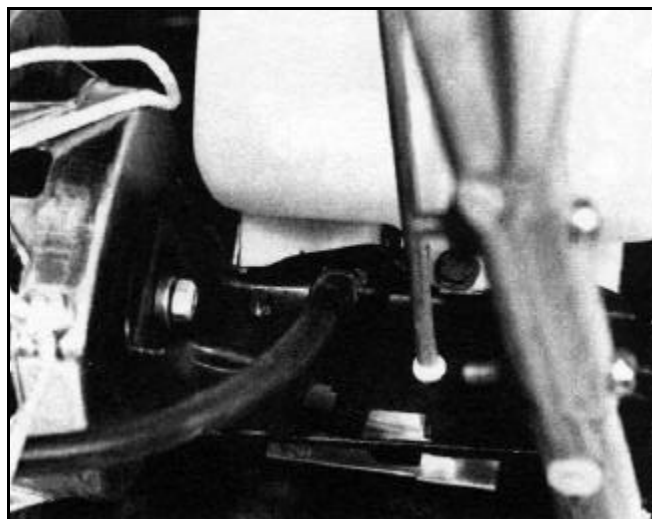

Figure 35
10. Using a hose clamp pliers or a needle nose pliers, compress the fuel line clamp at the carburetor fitting and slide the clamp down the fuel line hose (Figure 35). Remove the fuel line from the carburetor.